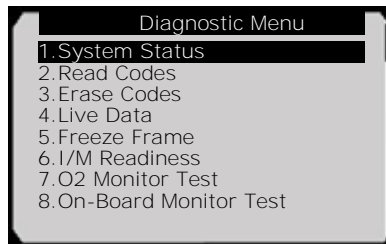

Figure 5.3
- 7) View a summary of system status (MIL status, DTC counts, Monitor status) on screen. (Figure 5.1 ) Press **ESC** button for **Diagnostic Menu** (Figure 5.3) to come up.
- 1) Use **UP/DOWN** scroll button to select **Read Codes** from **Diagnostic Menu** and press **OK** button. (Figure 5.3 )
- 1) Use the **UP/DOWN** scroll buttons to select **Erase Codes** from **Diagnostics Menu** and press the **OK** button. (Figure 5.3)
- 1) To view live data, use the **UP/DOWN** scroll button to select **Live Data** from **Diagnostic Menu** and press the **OK** button. (Figure 5.3)